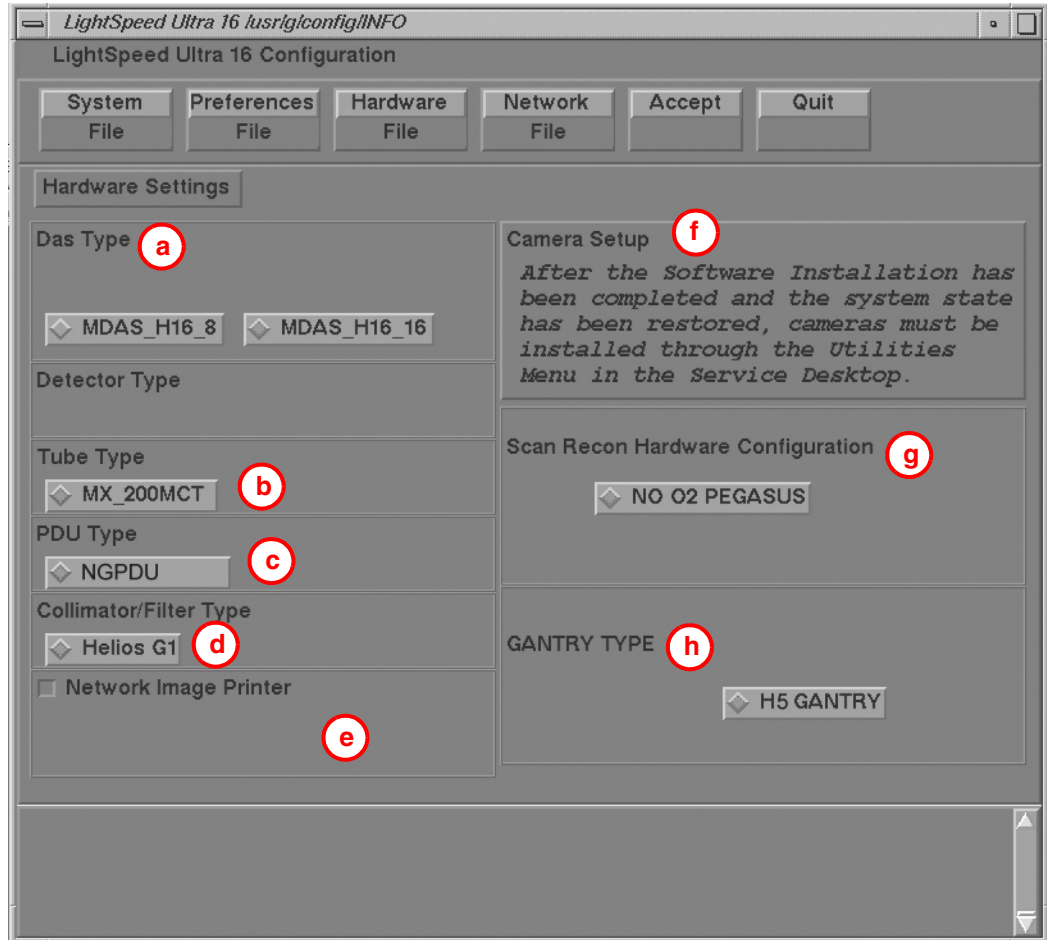

Figure 2-13 Hardware Settings Screen (example only - actual screen may vary)
- 8.) Select the **HARDWARE** button to display the Hardware Settings Screen (Figure 2-13).